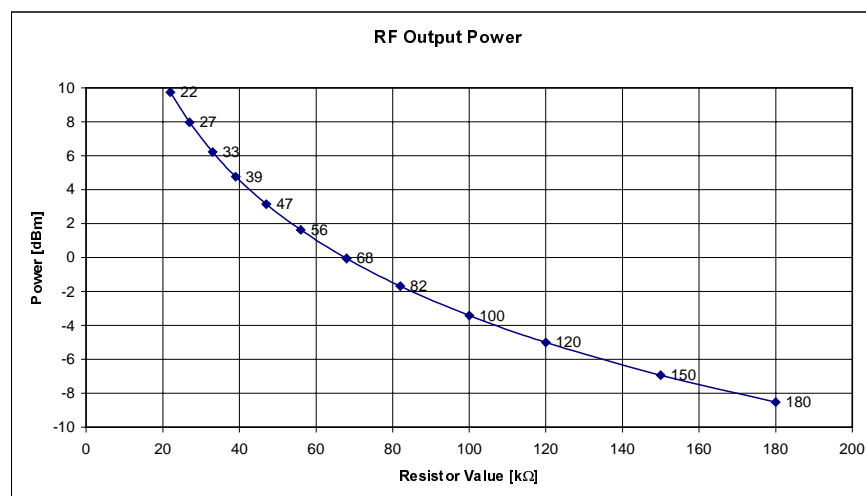
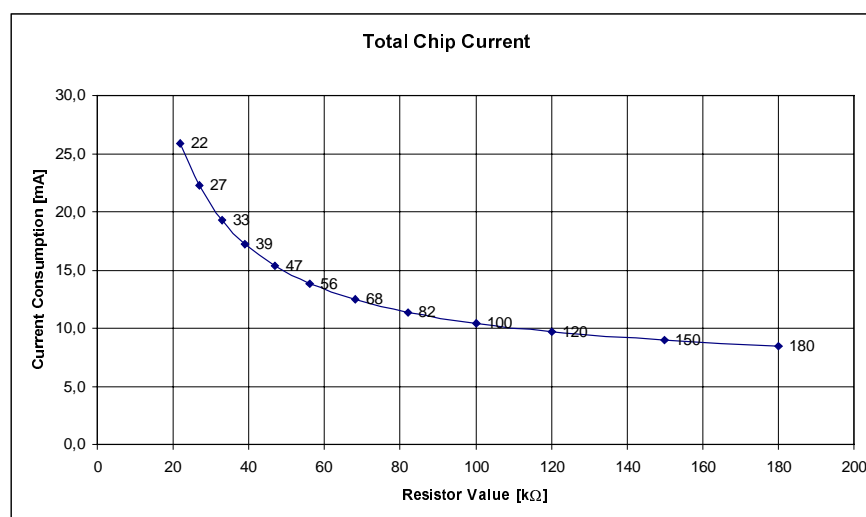
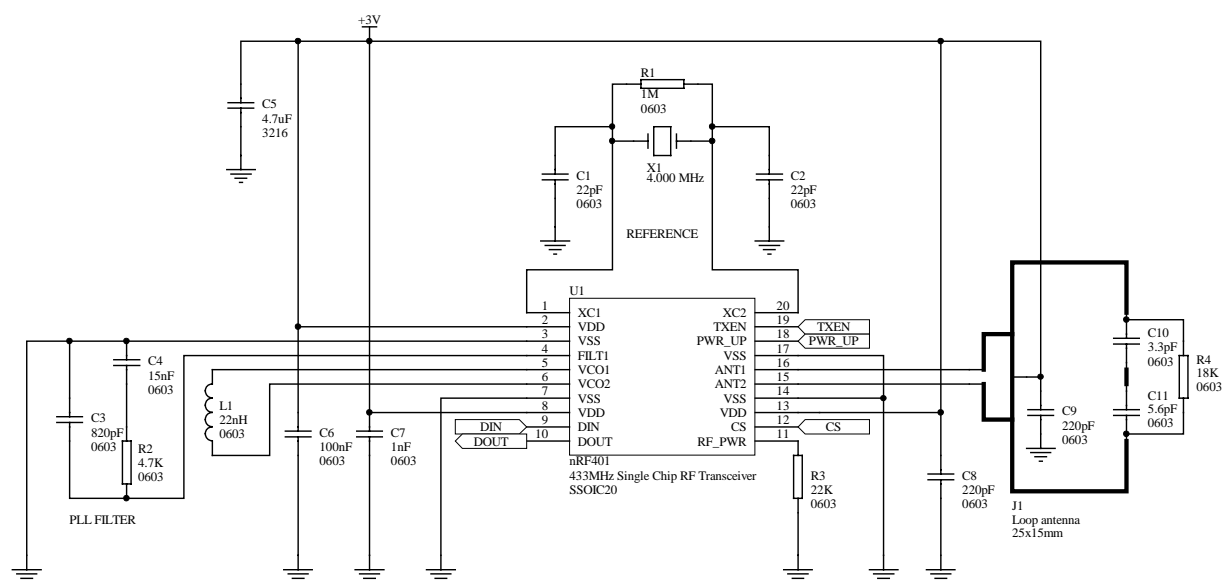
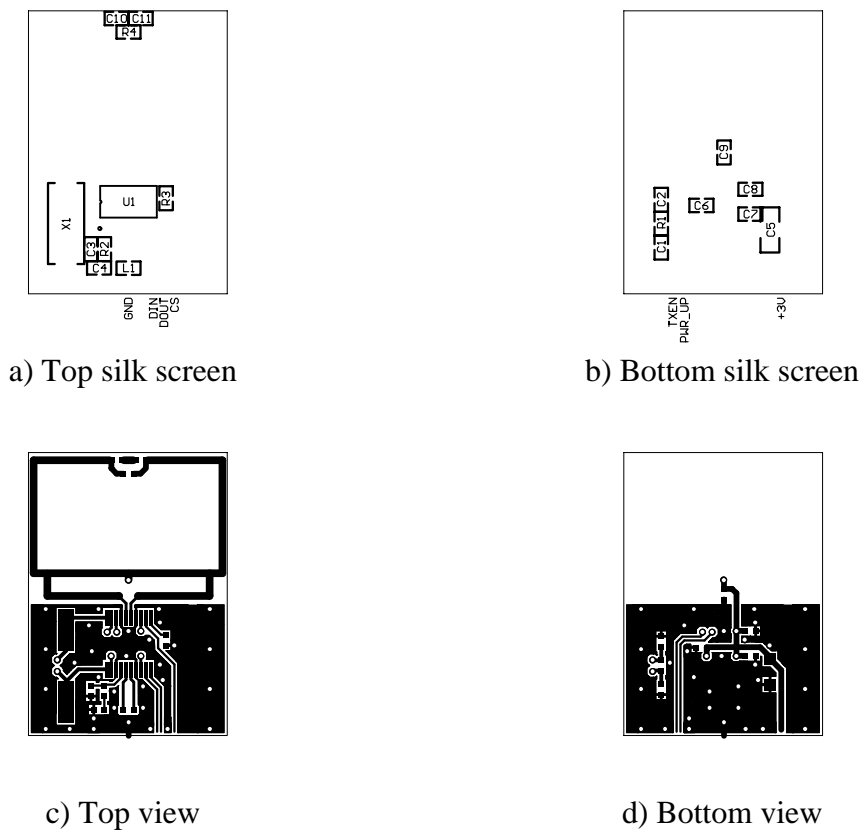

Figure 8. RF output power vs. external power setting resistor (R3) for nRF401.
Figure 9. Total chip current consumption vs. external power setting resistor (R3) for nRF401.
Figure 12. nRF401 application schematic.
Figure 13. PCB layout (example) for nRF401 with loop antenna.
Figure 12 shows a typical application schematic with a differential loop antenna on a Printed Circuit Board (PCB). The output stage (PA) consists of two open collector transistors in a differential pair configuration. VDD to the PA must be supplied through the collector load. When connecting a differential loop antenna to the ANT1/ANT2 pins, VDD should be supplied through the centre of the loop antenna as shown in Figure 12.
The external bias resistor R3 connected between the RF\_PWR pin and VSS in Figure 12 sets the output power. The RF output power may be set to levels up to +10dBm. In Figure 8 the output power is plotted for power levels down to, but not limited to, -8.5dBm for a differential load of 400 $\Omega$ . DC power supply current versus external bias resistor value is shown in Figure 9.
The synthesiser loop filter is an external, single-ended second order lag-lead filter. The recommended filter component values are:  $C3 = 820 \text{ pF}$ ,  $C4 = 15 \text{ nF}$ , and  $R2 = 4.7 \text{ k}\Omega$ , see Figure 12.
The VCO inductor placement is important. The optimum placement of the VCO inductor gives a PLL loop filter voltage of  $1.1 \pm 0.2 \text{ V}$ , which can be measured at FILT1 (pin4). For a 0603 size inductor the length between the centre of the VCO1/VCO2 pad and the centre of the inductor pad should be 5.4 mm, see Figure 13 (c) (layout, top view), for a 2 layer, 1.6 mm thick FR4 PCB.
C1 and C2 are 0603 SMD capacitors as shown in the application schematic, see Figure 12 and Table 9.  $C_{PCB1}$  and  $C_{PCB2}$  are the layout parasitic capacitance on the circuit board. Layout parasitics are significant when using SMD crystals on PCBs with ground planes. Changes in  $C_L$  leads to changes in crystal frequency.
The VCO inductor placement is important. The optimum placement of the VCO inductor gives a PLL loop filter voltage of  $1.1 \pm 0.2$  V, which can be measured at FILT1 (pin4). For a 0603 size inductor the length between the centre of the VCO1/VCO2 pad and the centre of the inductor pad should be 5.4 mm, see Figure 13 (c) (layout, top view), for a 2 layer, 1.6 mm thick FR4 PCB.
Figure 13 shows a PCB layout example for the application schematic in Figure 12. A double-sided FR-4 board of 1.6mm thickness is used. This PCB has a ground plane on the bottom layer. Additionally, there are ground areas on the component side of the board to ensure sufficient grounding of critical components. A large number of via holes connect the top layer ground areas to the bottom layer ground plane. There must **NOT** be a ground plane shielding the radiation from the antenna.